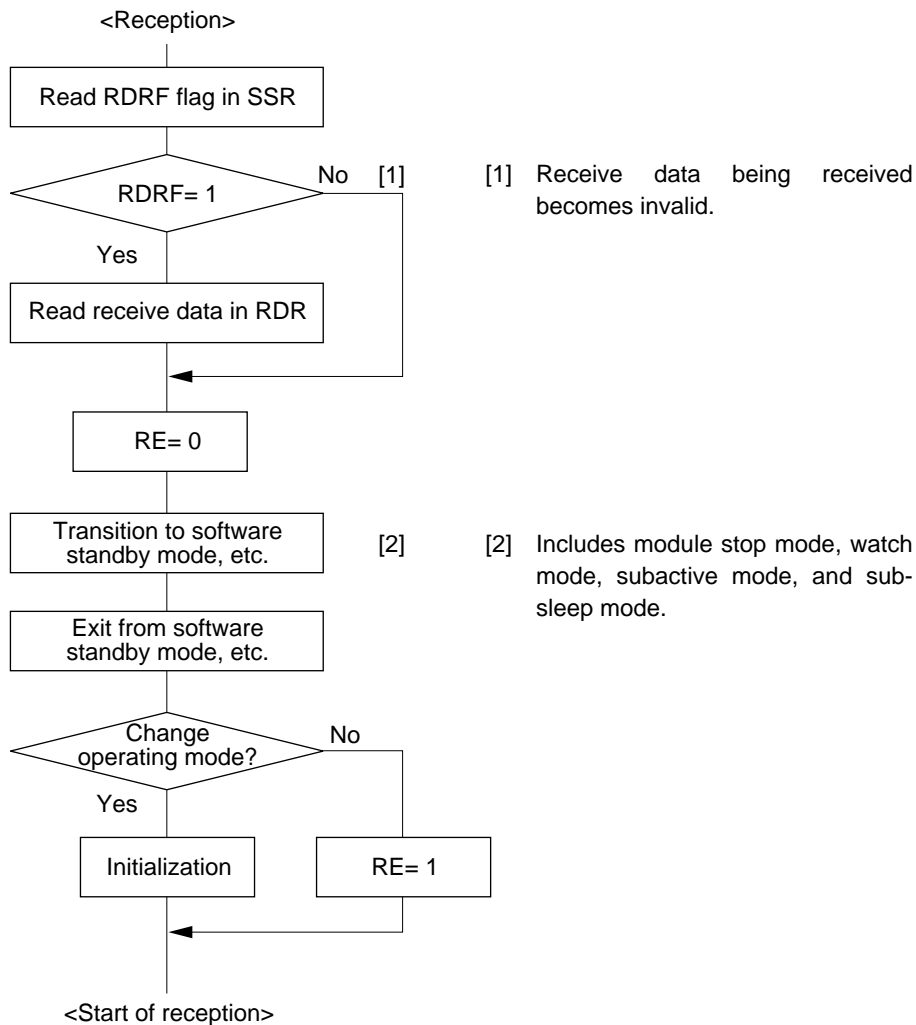

Figure 12-31 Sample Flowchart for Mode Transition during Reception
- Figure 12-31 shows a sample flowchart for mode transition during reception.